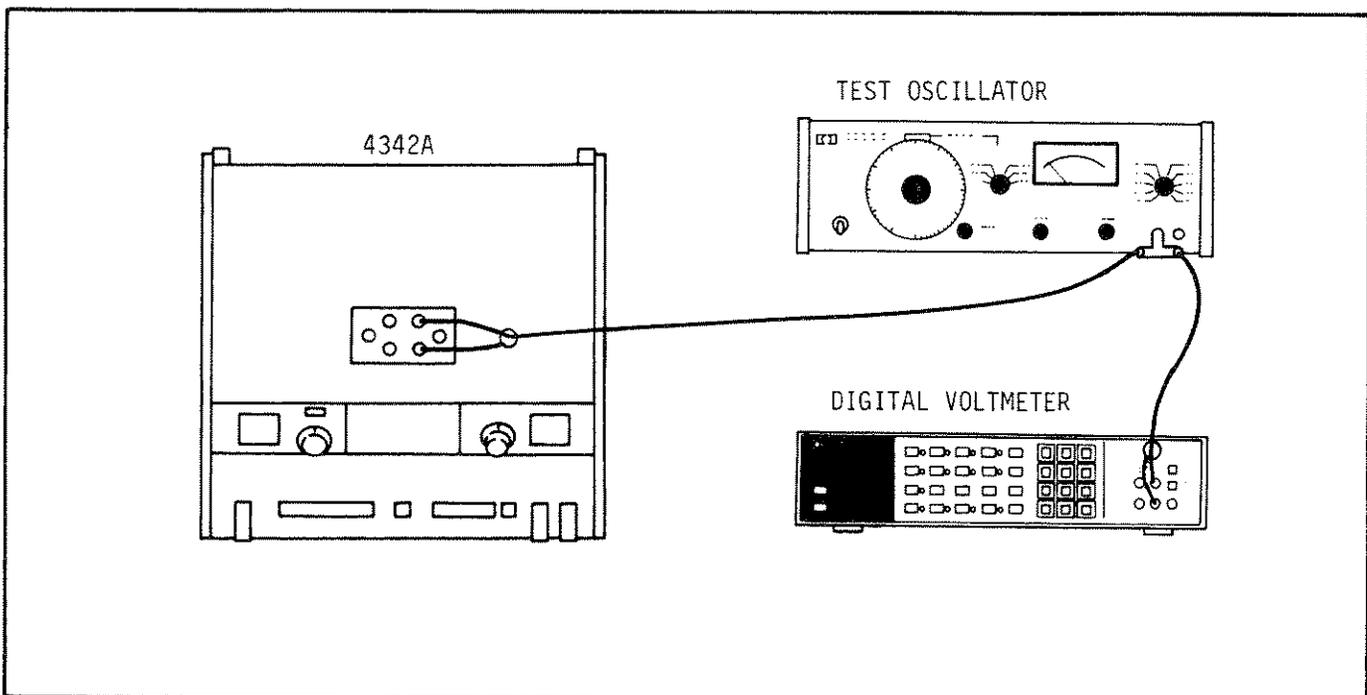

Figure 5-6. Voltmeter Adjustment.
- a. Connect the Test Oscillator and the Digital Volemeter to 4342A as shown in Figure 5-6.
- d. Connect the Test Oscillator to the 4342A as shown in Figure 5-6.